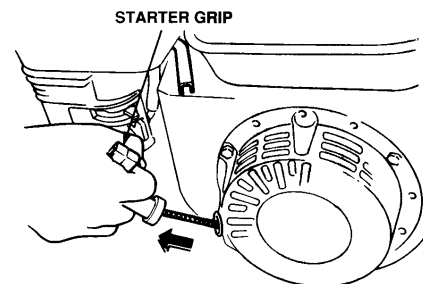

Figure 15. Starter Grip
6. Grasp the **starter grip** (Figure 15) and slowly pull it out. The resistance becomes the hardest at a certain position, corresponding to the compression point. Pull the starter grip briskly and smoothly for starting.